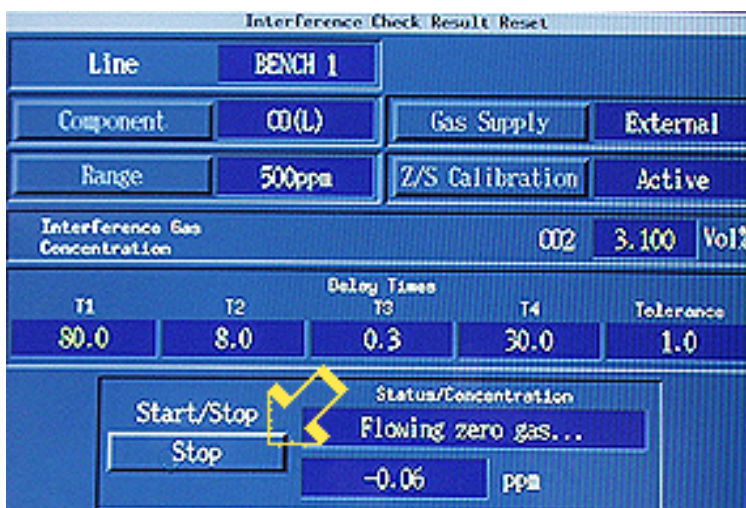

Figure 15
- 117 Click on the “Start/Stop” button See Figure 15.